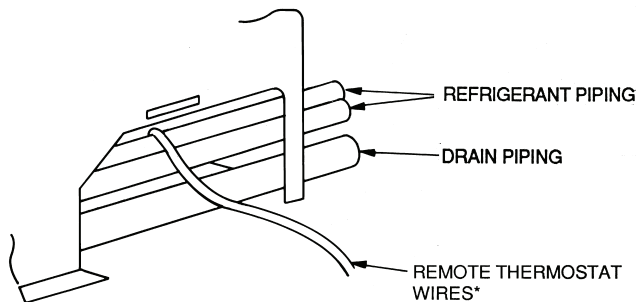

**Fig. 11 — Hanging Fan Coil Unit**
5. Lift the unit into place, and fit the hex-head bolts on sides of indoor unit into mounting slots of mounting brackets (Fig. 11). Ensure unit is mounted with a slight tilt to the right rear side for properly drainage.